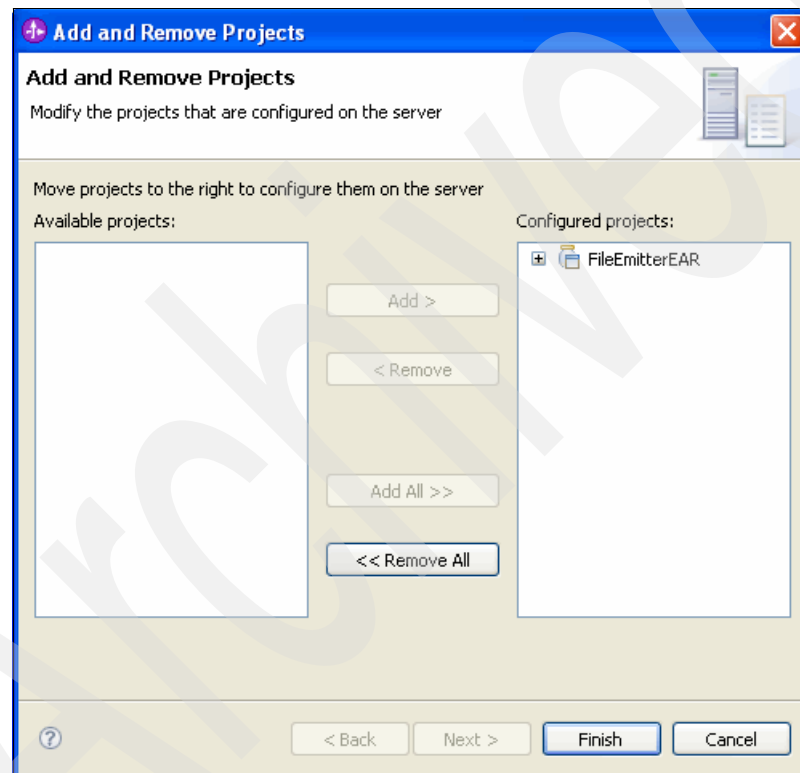

Figure 9-36 Adding FileEmitterEAR to the Monitor server
2. In the Add and Remove Projects window (Figure 9-36), add the FileEmitterEAR to the server (Configured projects) and click **Finish**.